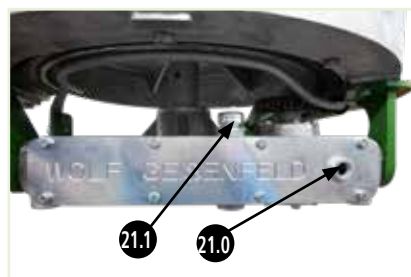

Fig. 8
Sequence of steps (Fig. 8):
- Check the profile belt tension 20.0 (Fig. 8) and adjust if necessary